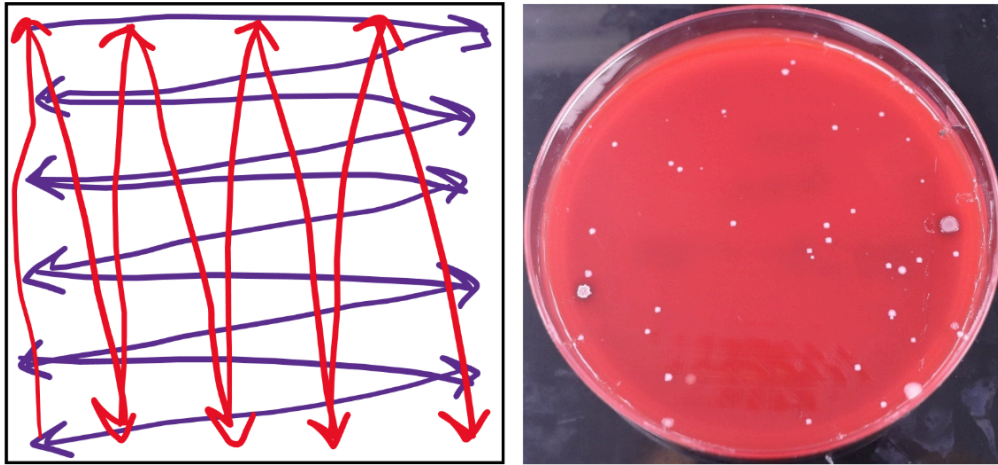

Figure 4.2. Swabbing technique. Left: Pattern of swabbing an object. Right: Swab plate results.
a petri plate, then bacteria are isolated in pure culture using a streak plate. Figure 4.2 shows the pattern of swabbing an object: Swab is passed horizontally first (blue line), then vertically (red line) across the area being swabbed. Next, the swab is then squiggled across the entire width of the plate starting at the top and proceeding to the bottom. After incubation, bacteria have grown all over the petri plate surface (Figure 4.2 right). Isolated colonies can be selected and purified by streak plating to obtain a pure culture.
4. Swab a defined area of 50 cm²: 10 cm wide by 5 cm long. Swab in one direction then in the direction perpendicular to the first direction. (Figure 4.2, left image)